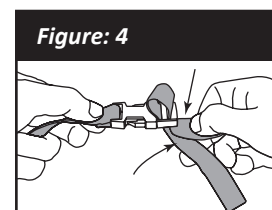

Figure: 4
2. Tighten belt by pushing the anchor end of the belt up through the buckle, creating a loop. Pull the free end of the belt to secure it in place. Repeat until the belt fits snugly around your child's waist. Do not over tighten. (See Figure: 4)